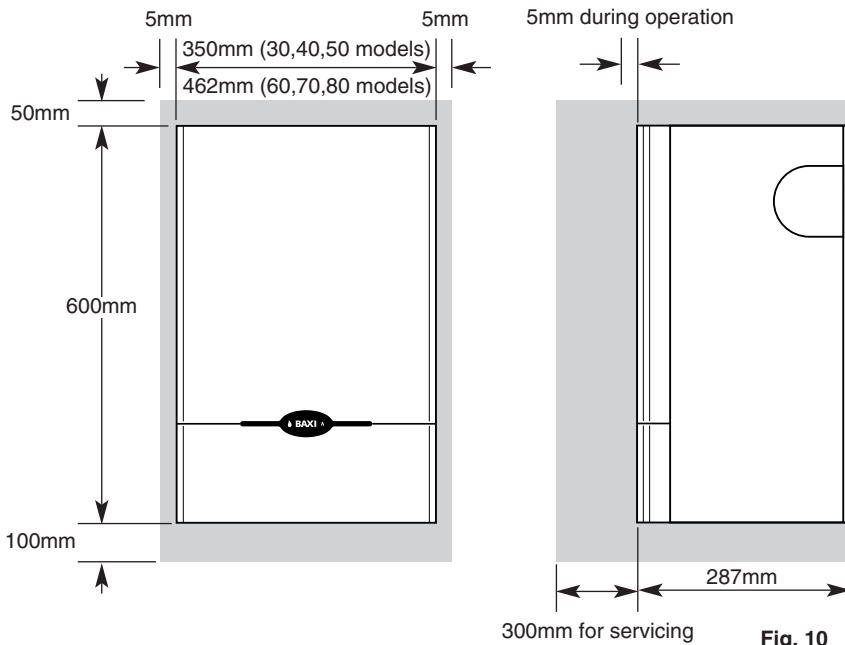

Fig. 10
4.2 Minimum Clearances (Fig. 10)